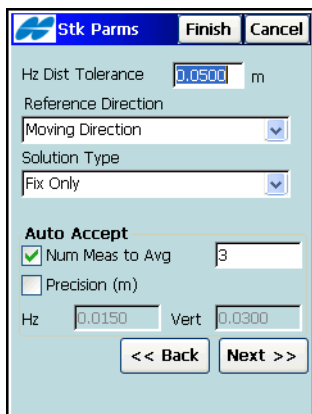

Figure 3-45. Stake Parameters
The *Stk Params* screen (Figure 3-45) sets the parameters that are used by a job during a stakeout. These parameters can be changed with the help of the **Settings** button from any Stakeout screen in GPS+ mode.
- **Next** – opens the next *Stake Parameters* screen (see Figure 3-45 on page 3-44).